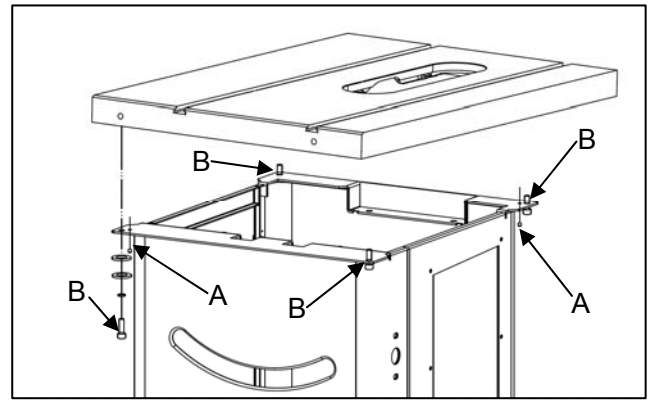

Fig. 24
2. If an adjustment is necessary, loosen the two M5-8x8 set screws (A) and four M10-1.75x25 cap screws (B) identified in **Fig. 24** which mount the table to the cabinet. Make the needed adjustment until both measurements are equal or less than 0.2 mm. then re-tighten all the screws.